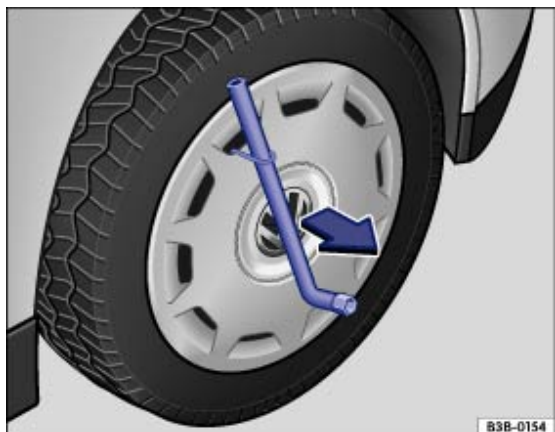

Fig. 226 Removing the wheel covers
- Push the box spanner through the wire hook → Fig. 226 and remove the wheel cover in the direction of the arrow.